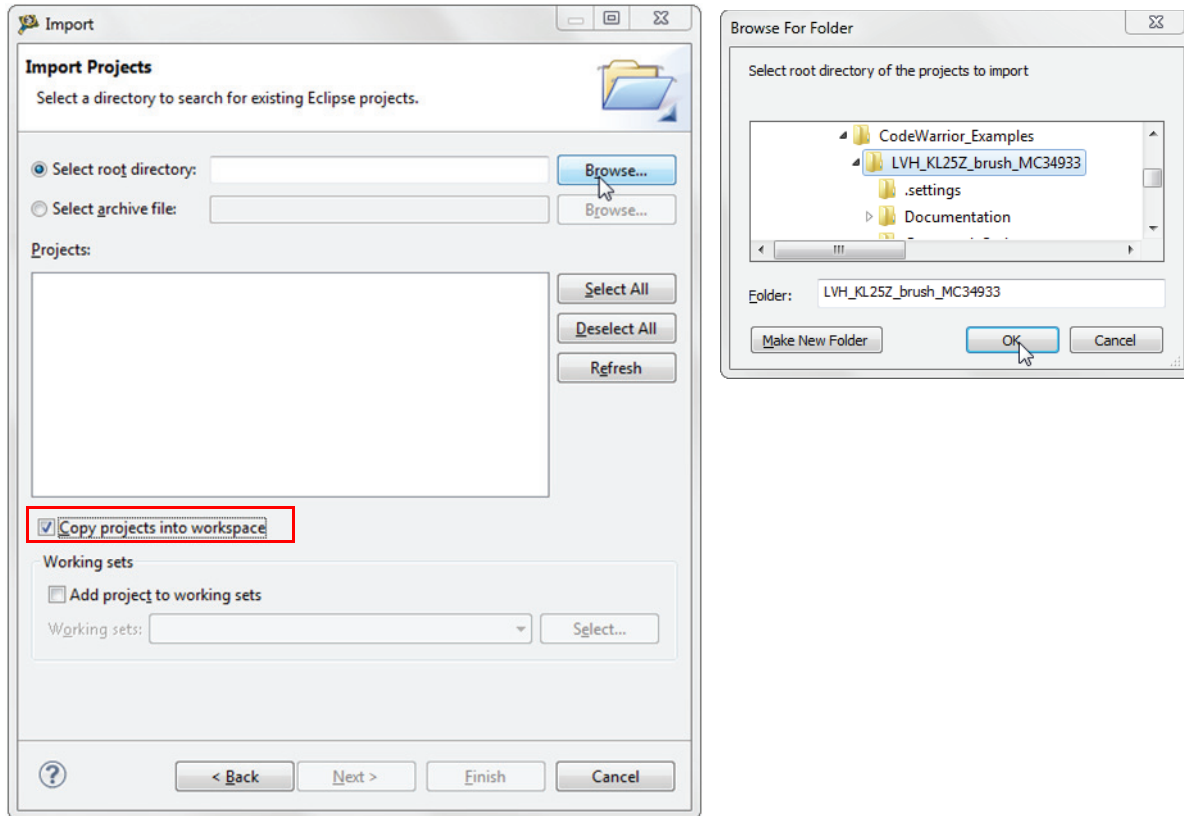

Figure 8. Example project import
2. Locate the example in folder: LVHBridge\_PEx\_SW\CodeWarrior\_Examples (see Figure 8, which shows LVH\_KL25Z\_brush\_MC34933 as the imported project). Click **Finish**.